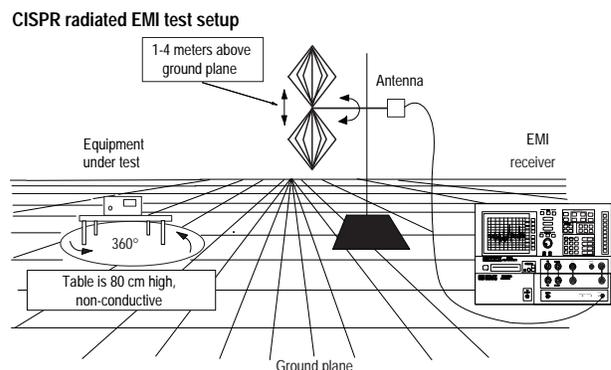

Figure 14: Radiated test setup
1. Arrange the antenna, EUT and EMI receiver as shown in Figure 14. Separate the antenna and the EUT by 3 meters (10 meters if the regulation calls it out). CISPR and ANSI require your EUT to be in worst case mode of operation (i.e. attached cables, monitor, scrolling Hs across the monitor, etc.)